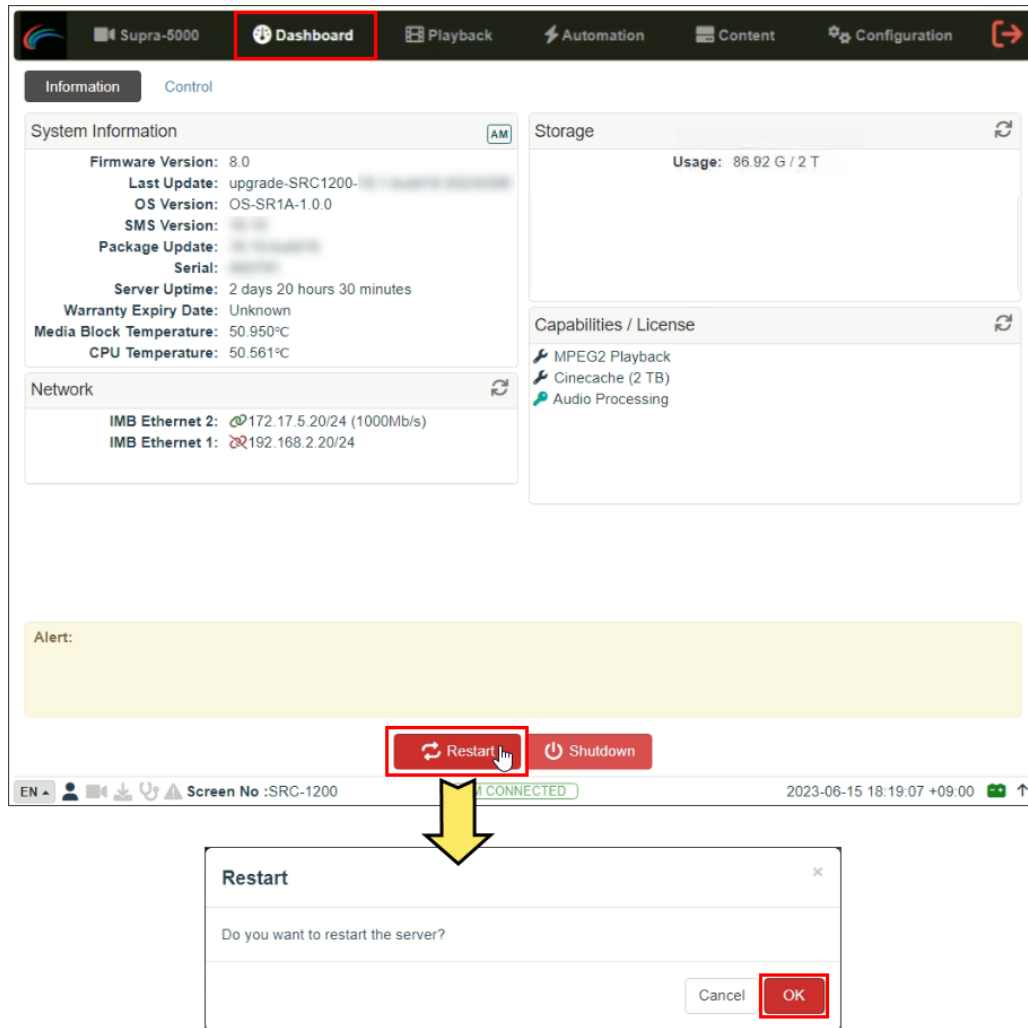

Figure 43: Restart DCMB after changes
- Go to the **Dashboard** tab, click **Restart**, followed by **OK** to confirm (as shown in **Figure 43**). This is to ensure all components in the DCMB are able to detect the selected storage after the restart.